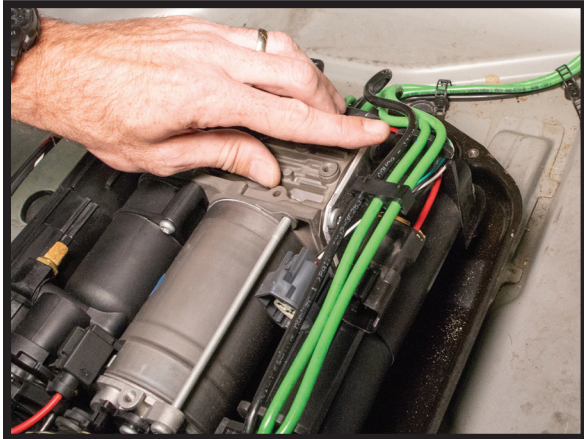

FIGURE 25
6. SECURE THE AIR HOSES AND WIRING HARNESS TO THE MOUNTING BRACKET. (FIGURES 25, 26)